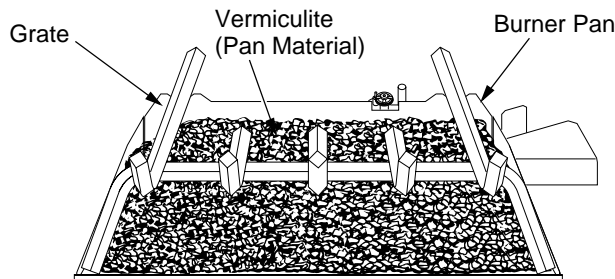

Figure 19 - Fill Entire Burner Pan with Vermiculite (P325E/VP325E Model Shown)
1. Open the bag(s) of vermiculite and fill the entire burner pan until the burner tube is completely covered (see Figure 19).